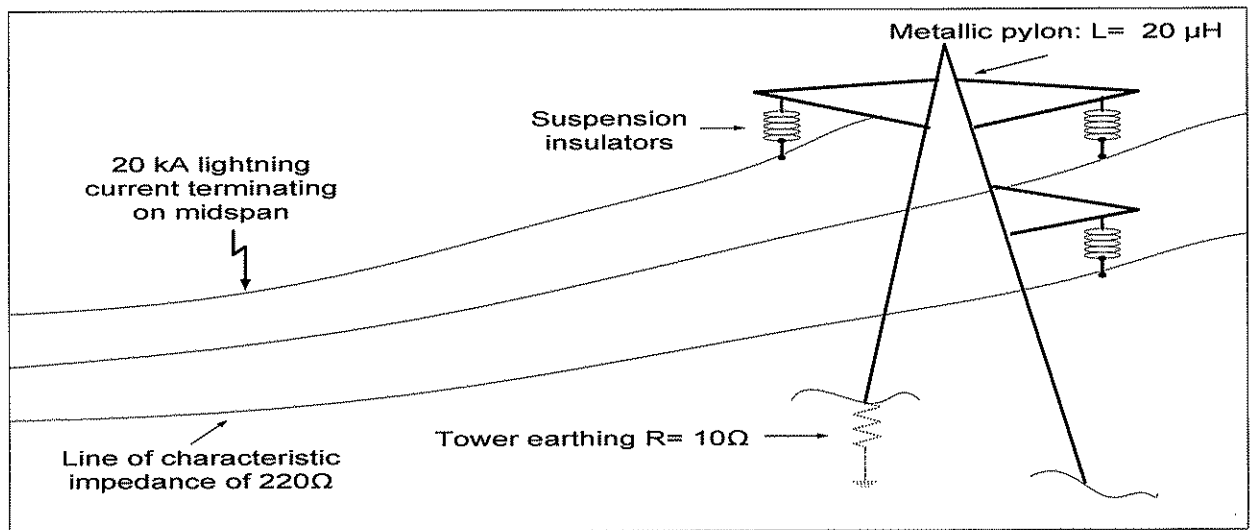

Figure 6: Lightning striking an overhead power line
- a) A test engineer is given a prototype generator stator bar to test for lightning impulse voltage breakdown. Using an impulse generator, she applies a single short standard lightning impulse on the stator bar. It breaks down at a point (B) on the tail of the impulse voltage as shown in in the Figure 6. Give reasons why the breakdown may not have happened on the impulse peak (A). If the engineer fires another identical impulse shot and the breakdown does not occur exactly at point B, explain why.